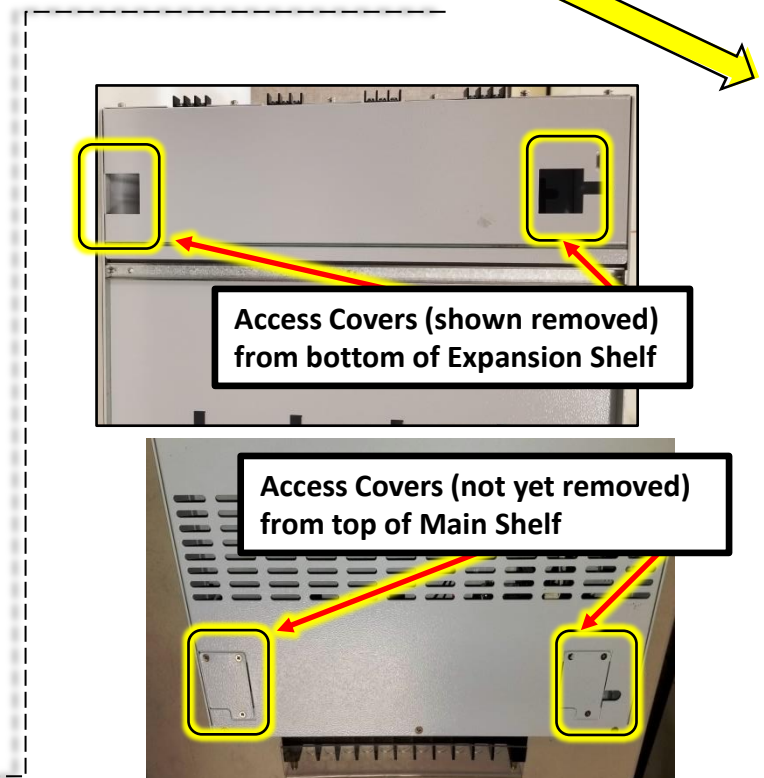

Figure 4d. Access Covers for Cable and Bus Bars
3. To stack and interconnect the Expansion Shelf, a communication cable and 2 bus bars are provided from the shelf supplier (see **Figure 4c**). The cable and bus bars will connect the 2 shelves together through the Access Cover openings, As shown in **Figure 4d**.